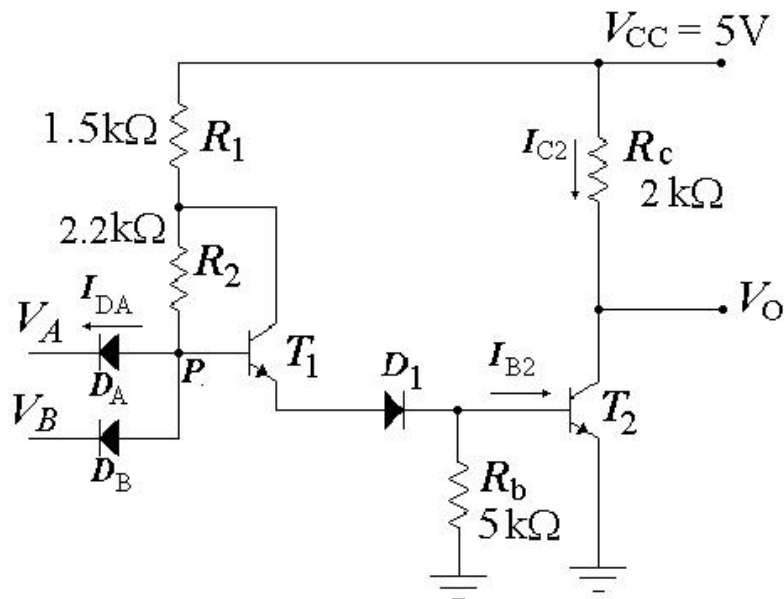

Figure 1 : Modified DTL NAND gate .
In Experiment 3, a simple DTL NAND gate was studied. That circuit is modified by replacing the diode D_1 with a transistor T_1 so that there is an increase in the base current of the output transistor without a corresponding increase in the current load imposed by each additional gate. Thus, the fanout of the gate is considerably increased. This circuit is shown in Figure 1.
- 1- **Construct** the circuit as shown in Figure 1. Adjust the dc supply to 5 volts.